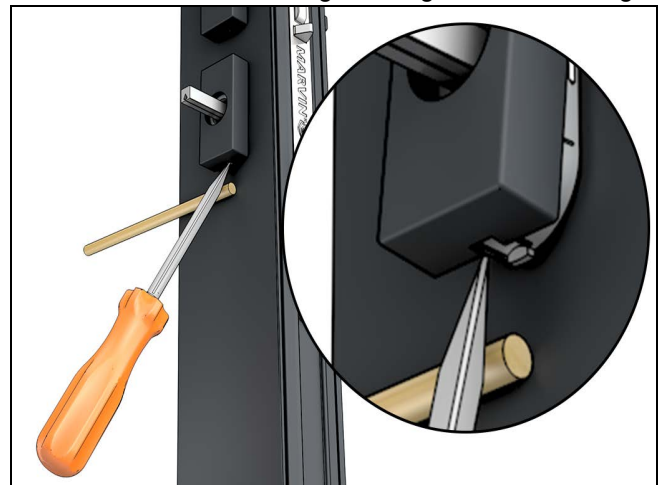

Figure 3
9. To remove the handle covers: use a small screwdriver to pry the cover off, releasing the cover from the tabs on the base. See Figure 3. Use a wooden dowel or other non marking tool to gain more leverage.